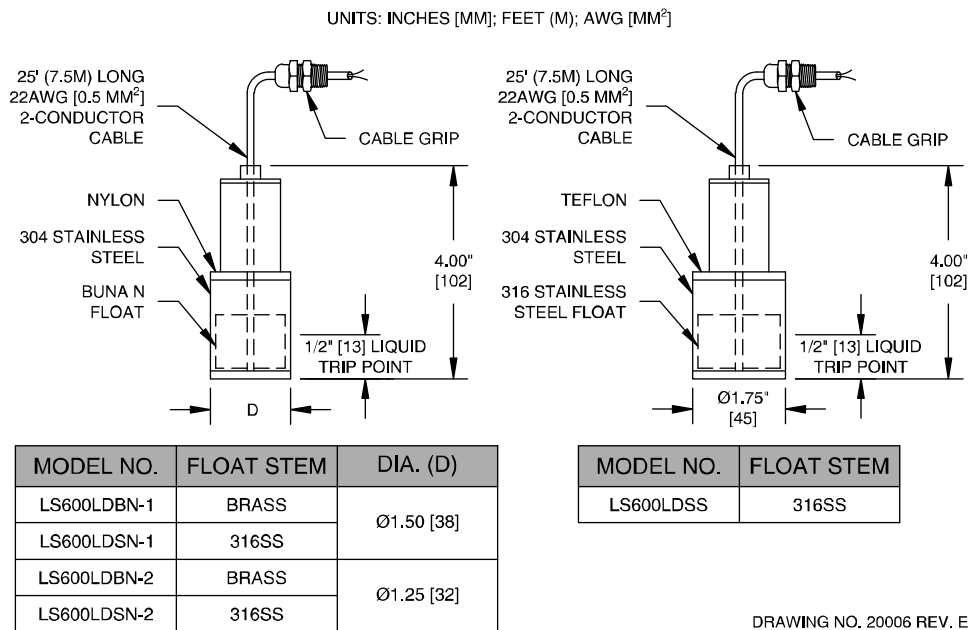

Figure 1-5 – LS600LD Series
TMS4000M can be integrated with a variety of liquid sensors used for monitoring secondary containment areas around tanks and pipes. The maximum is 8 sensors depending on the overall job configuration; check the specific job design drawings for the actual number and type specified. Figures 1-5 through 1-8 show four (4) typical sensor types provided by Pneumercator with their most typical applications. Other non-Pneumercator models may be used; however, their use with TMS4000M should have been approved before attempting to wire them into the system.